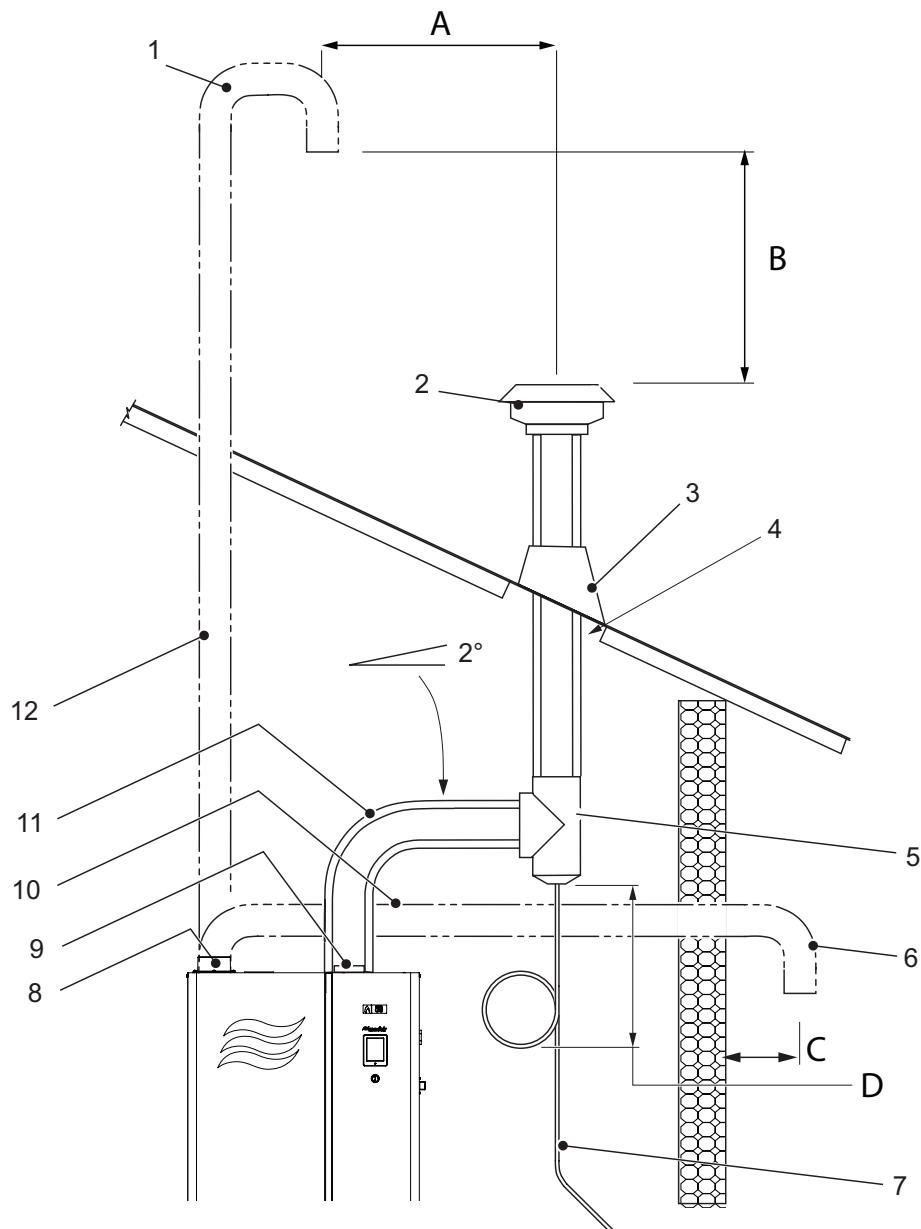
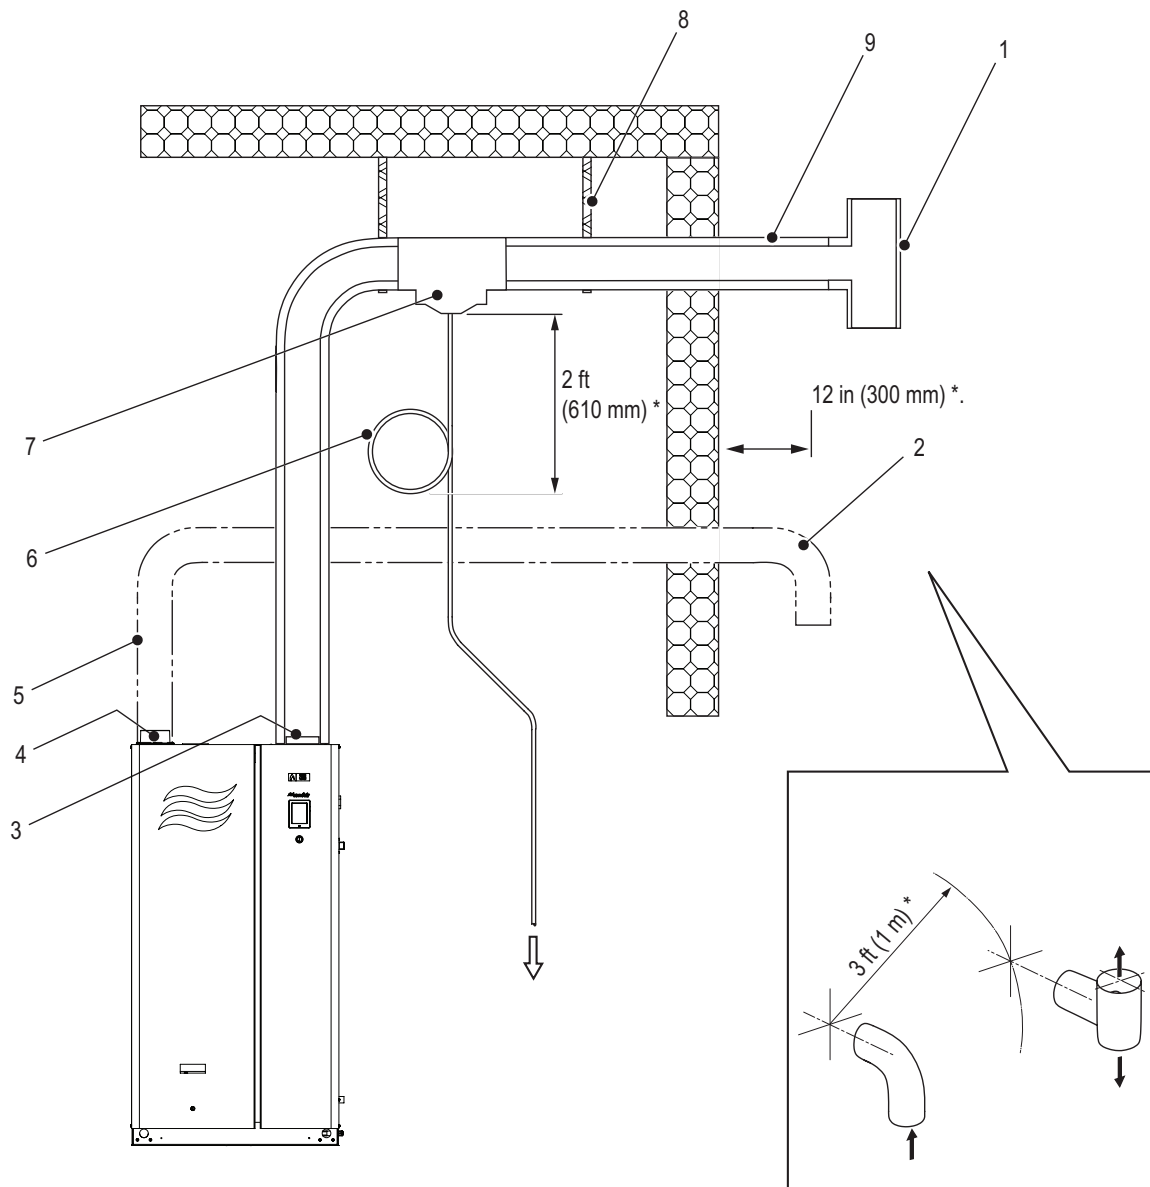

Figure 19: Vertical Venting (with Optional Sealed Combustion Hookup) – Category III/IV
Figure 20: Horizontal Venting (with Optional Sealed Combustion Hookup) – Category III/IV
Figure 19 on page 41 and Figure 20 on page 42 show the general types of venting arrangements. These are guidelines only. For the specific venting arrangements refer to "Installation as a C6 Appliance" on page 42, and "Gas Connection" on page 45 . Adhere to all national or local codes.
- **Category III/IV** appliances can be vented vertically or horizontally, and can terminate on a rooftop or sidewall provided they meet the requirements of the National Fuel Gas Code (ANSI Z223.1), or CAN/CGA B149 Installation Codes. Refer to Figure 19 on page 41 and Figure 20 on page 42. Adhere to vent manufacturer's instructions.
- **Category IV:** During normal operation, a Category IV appliance will create exhaust condensate. Install condensate drain lines according to vent manufacturer's instructions every 15 ft (4.5 m) on all horizontal runs, and at every horizontal-to-vertical transition. Install a full "Tee" with condensate port and trap at all horizontal-to-vertical transitions. The condensate trap must be minimum 12 in (300 mm) in diameter. Refer to Figure 19 on page 41 or Figure 20 on page 42.